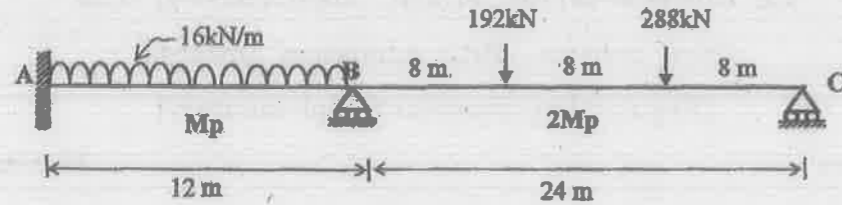

Fig. 1
11. Find the required value of plastic moment capacity in the continuous beam shown in Fig. 1. The loads shown are collapse loads.